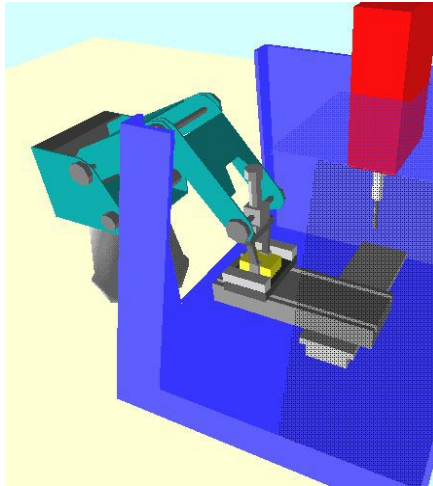

Figure 7-4: Position 3
- 2 Refer to Figures 7-4, 7-5 and 7-6.
- 3** Once the gripper has successfully placed the block in the vise, record this position as **robot position 3**, as shown in Figure 7-4.